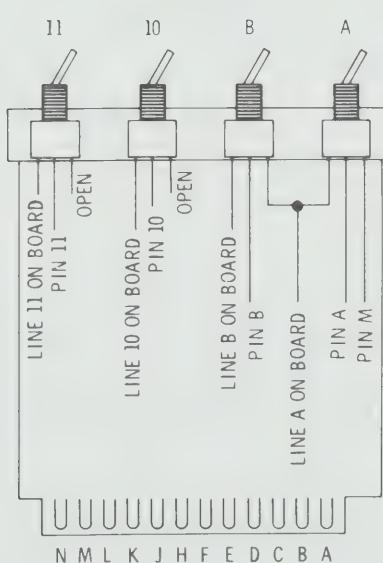

Figure E-1. 11661 Test Board
3. Wire as shown in Figure E-1.